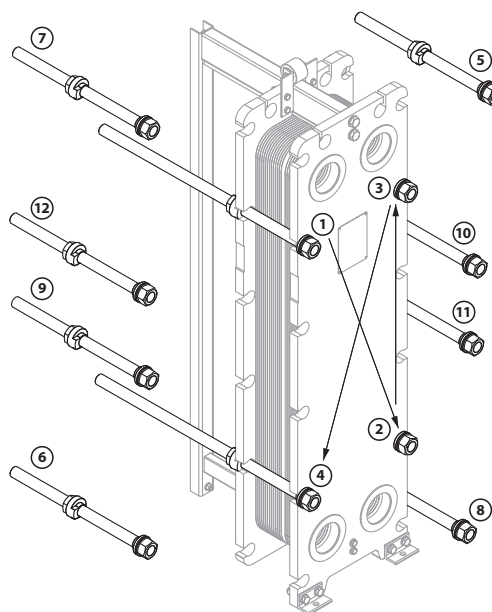

Fig. 39
- Fit the four long tie rods and tighten evenly in the numbered order 1, 2, 3, 4 (fig. 39) until a resistance can be noticed. The follower must have a parallel closing motion